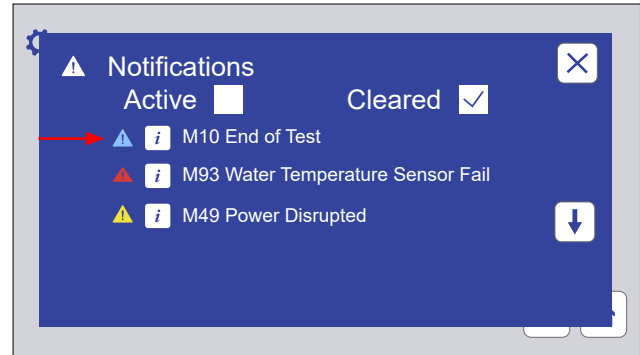
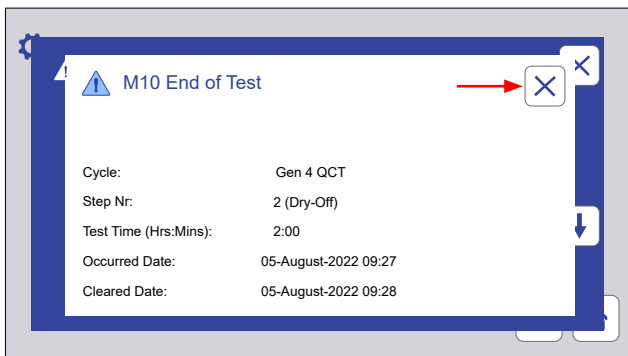

Figure 8.5f: Touch the information icon to display notification details.
Figure 8.5g: Notification details. Touch the Close icon to return to the Notifications Screen.
- Touch the notification information icon to display details (Figure 8.5f and Figure 8.5g).